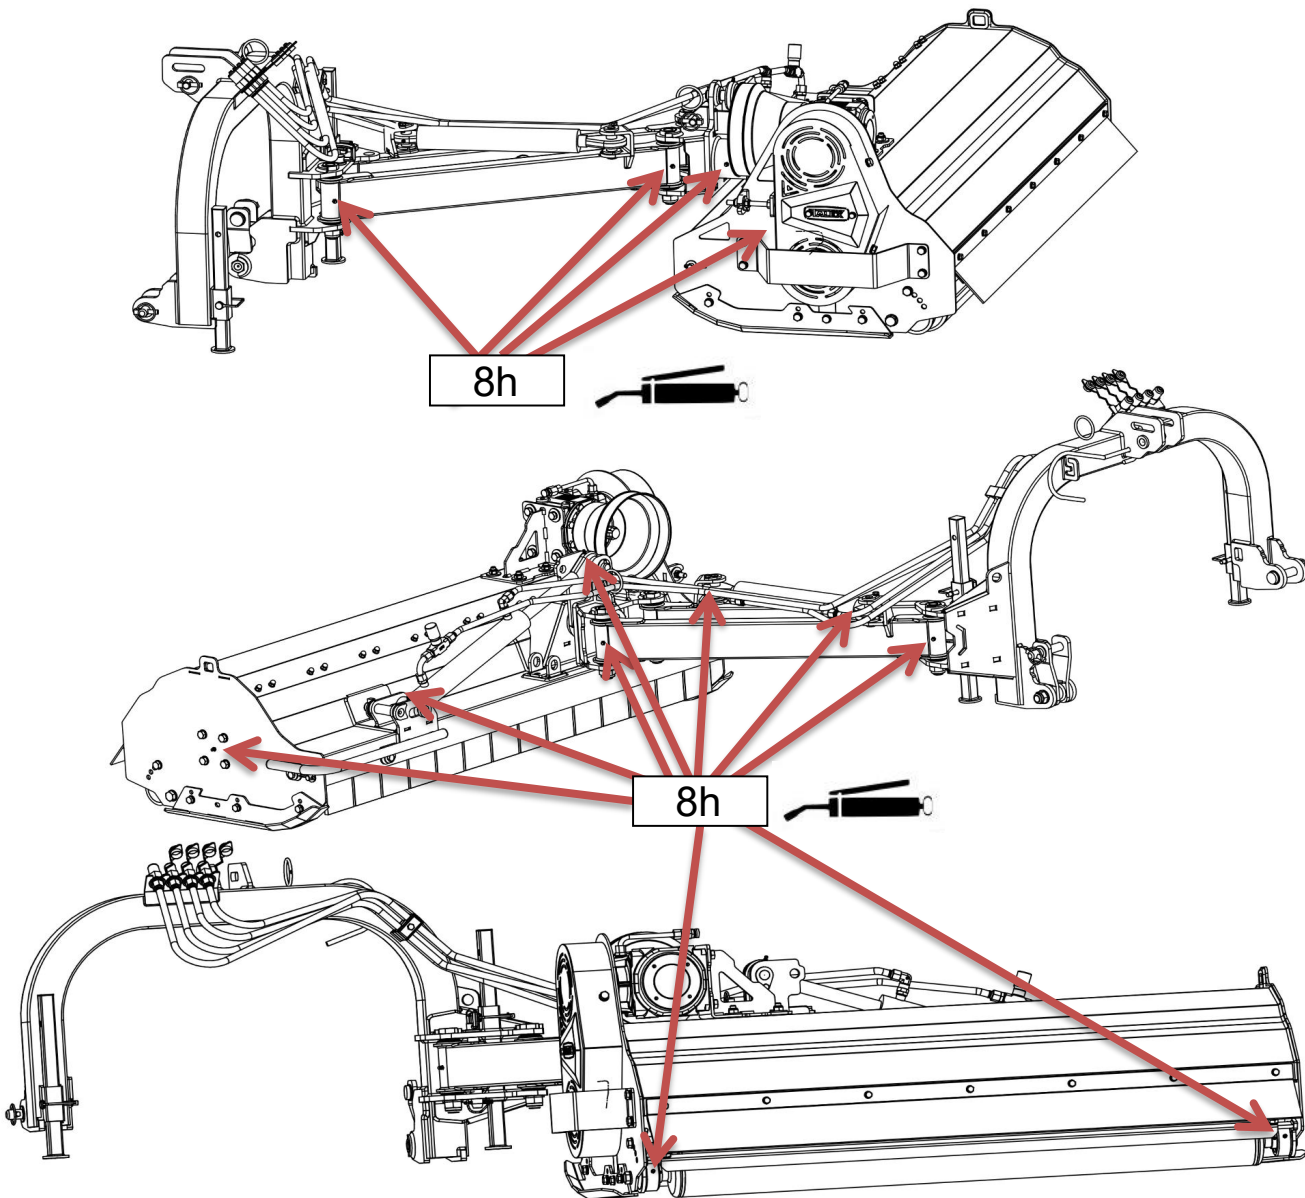

Figure 14. Lubrication diagram
All points indicated in Figure 14, equipped with ball type grease fittings, should be filled with solid grease LT43 using of a lubricating gun. Lubricate the jointed-telescopic shaft after removing it from the machine. Lubricate the telescopic part of the shaft at least after 8 hours of operation – when the shaft is entirely moved apart and impurities have already been cleaned. Details of PTO shaft operation are contained in a separate manual supplied with it.
The figure 14 presents the location and recommended operating time after which the indicated components should be lubricated.
- lubricate the machine according to the lubrication diagram (Fig. 14),